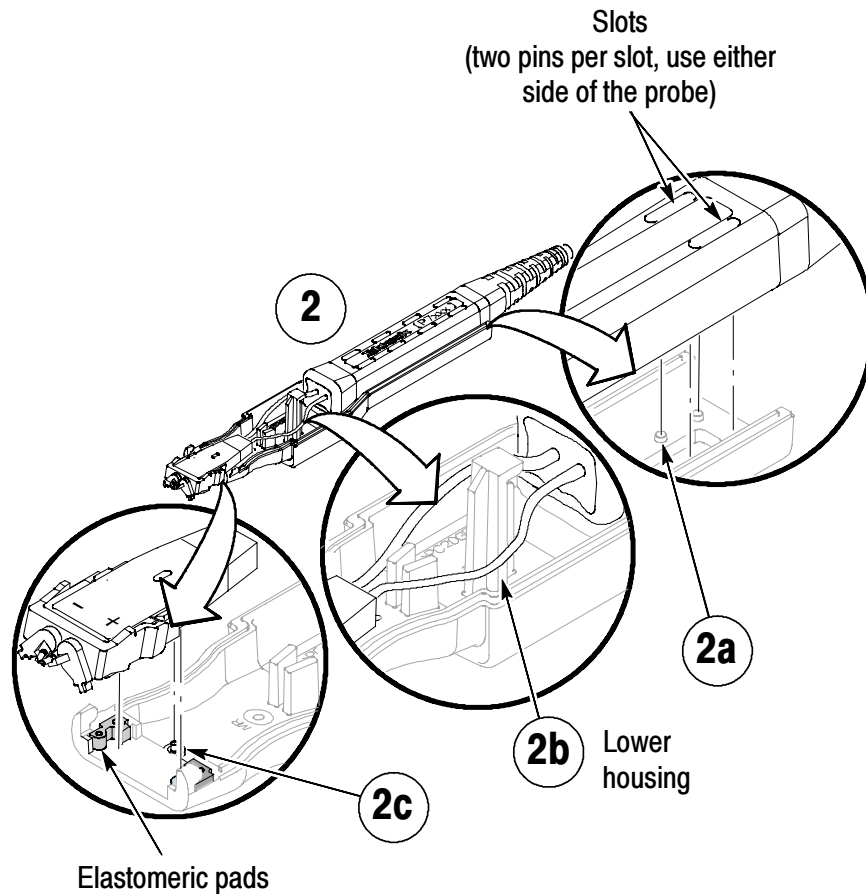
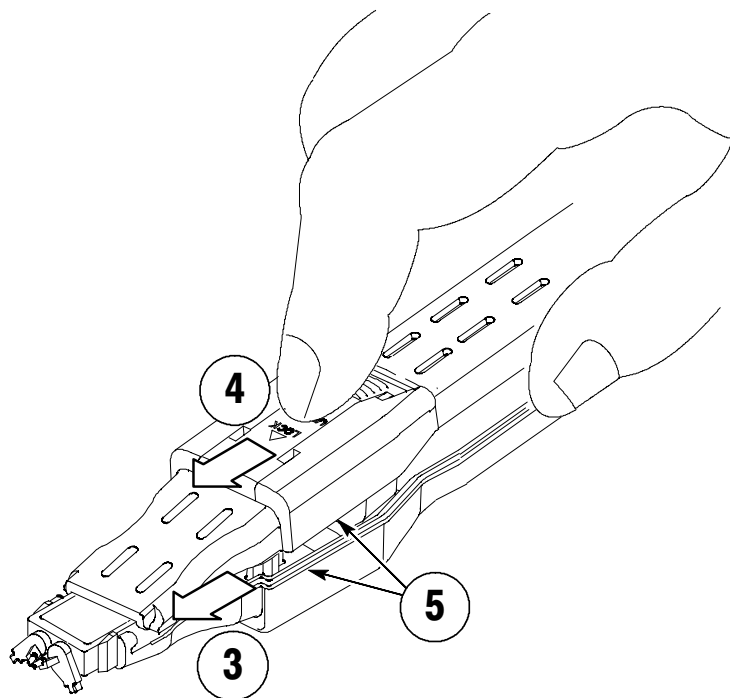

Figure 15: Assembling the handheld adapter
Figure 16: Lock the handheld adapter
2. Separate the Handheld Adapter housings, if necessary (see Figure 16 on page 22 for latch location), and place the probe in the lower housing. See Figure 15.
5. Slide the latch forward on the upper housing to lock the housings in place. See Figure 16.
NOTE. When the Handheld Adapter is properly assembled, the elastomeric pads seated in the nose of the handheld adapter (see Figure 15) provide a balanced cushioning for the probe tip, unless too much pressure is applied to the probe tip. This balanced cushioning of the probe tip helps make the connections to the two interconnect points of a differential measurement easier.